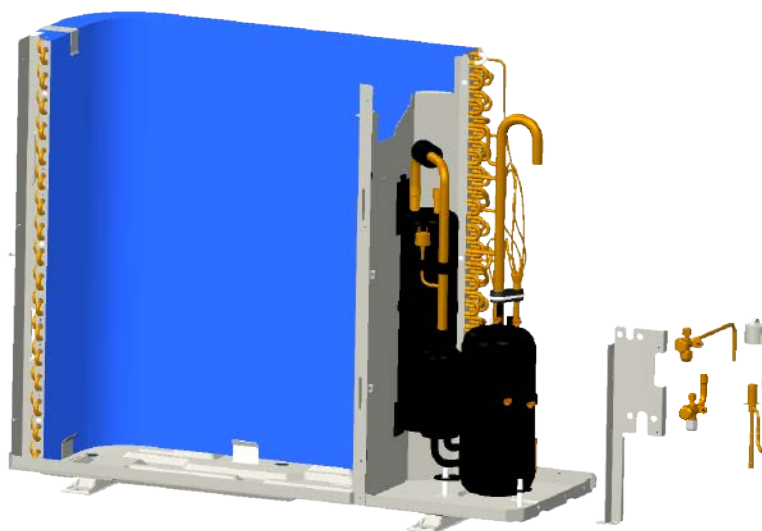

Fig.13
②. Remove liquid valve
- Unsolder the pipe connected to the liquid valve [See Fig.13]
- Loosen the bolts fixing the compressor and remove the compressor and gas-liquid separator. [See Fig.13]